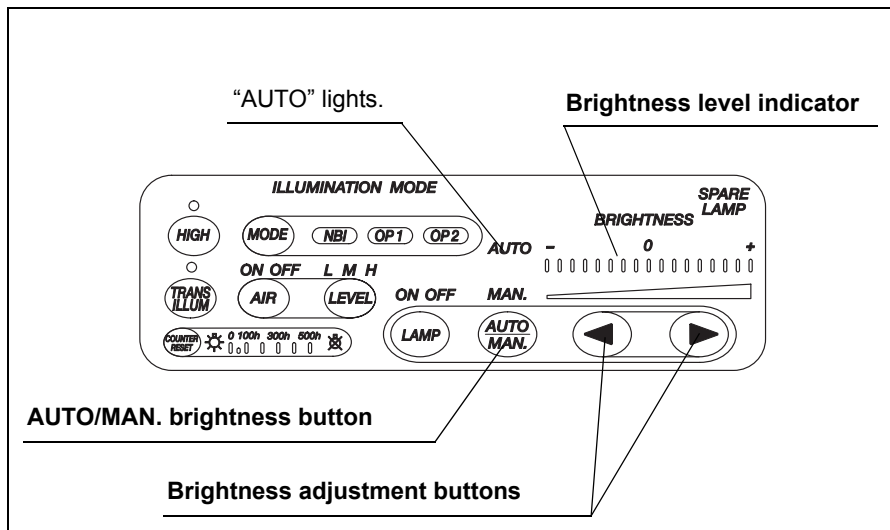

Figure 4.6
1. Press the AUTO/MAN. brightness button to select the automatic brightness adjustment (see Figure 4.6).